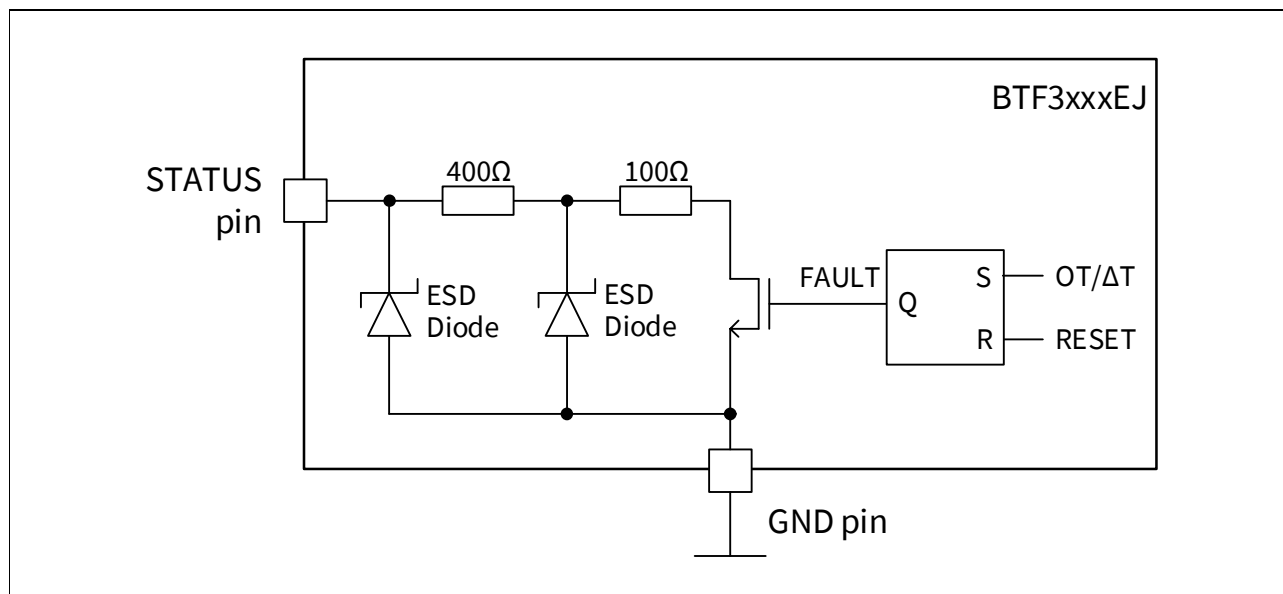

Figure 4 BTF3xxxEJ STATUS pin structure (typical values)
- 1) Reset by ENABLE= “low” is not applicable since STATUS is reset permanently and I_{LIM(TRIGGER)} is reset at each INPUT= “low” by the STATUS pin pulled-up to V_{DD} with the R₁ resistor. R₁=220 Ω for V_{DD}=5 V and R₁=100 Ω for V_{DD}=3.3 V. See Figure 4 for details on the STATUS pin structure.
Figure 4 shows a schematic diagram of the internal structure of the STATUS pin for all HITFET™ + BTF3xxxEJ. The values from the diagram can be used to compute the appropriate resistor-based customer's V_{DD} voltage.